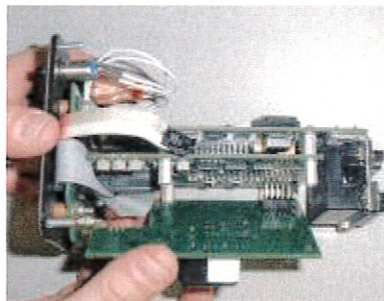

Figure 10 - Aligning Pins During Re-Assembling
6. After completion of the adjustment, follow steps 1-4 in reverse order. Note that the pins between the Logic board and the Backlight board must be aligned for the screw holes to line up. (See Figure 10)